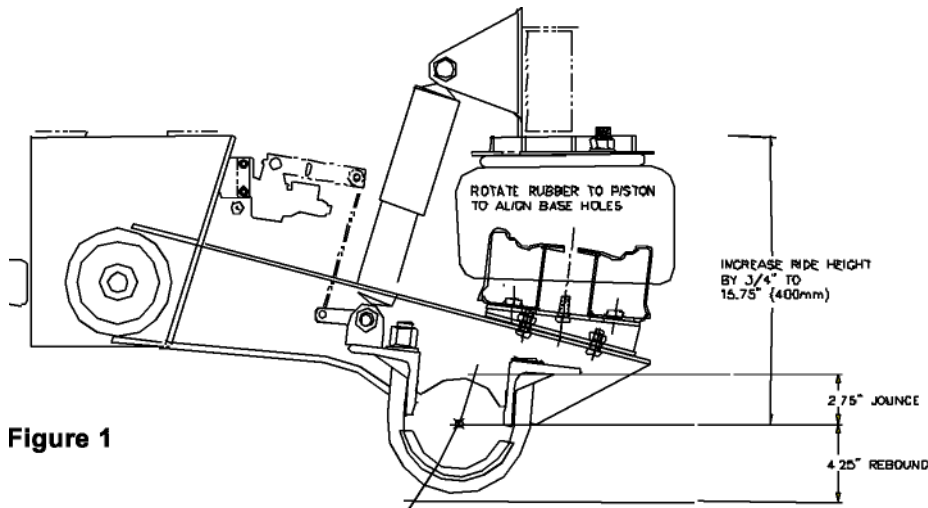

Figure 1
9. Bolt the spacer to the trailing arm Increase the ride height by 3/4" to 15.75" (400 mm) as shown in *Figure 1*.